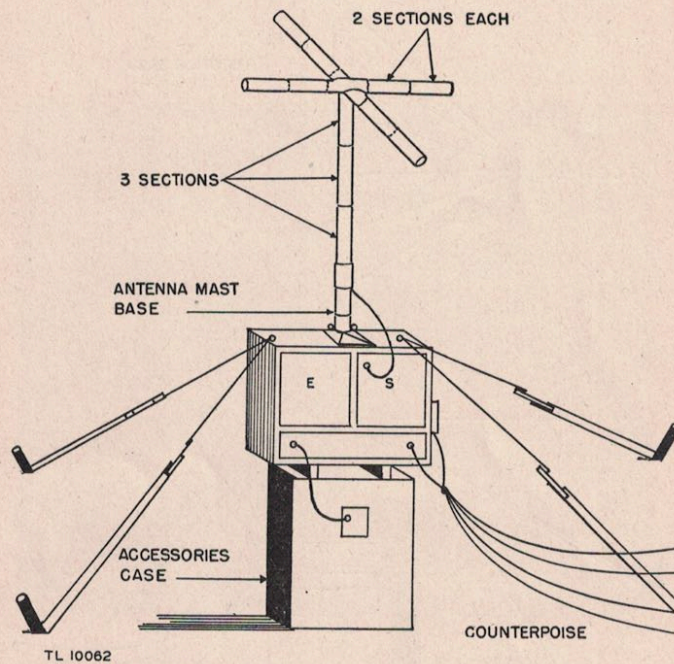
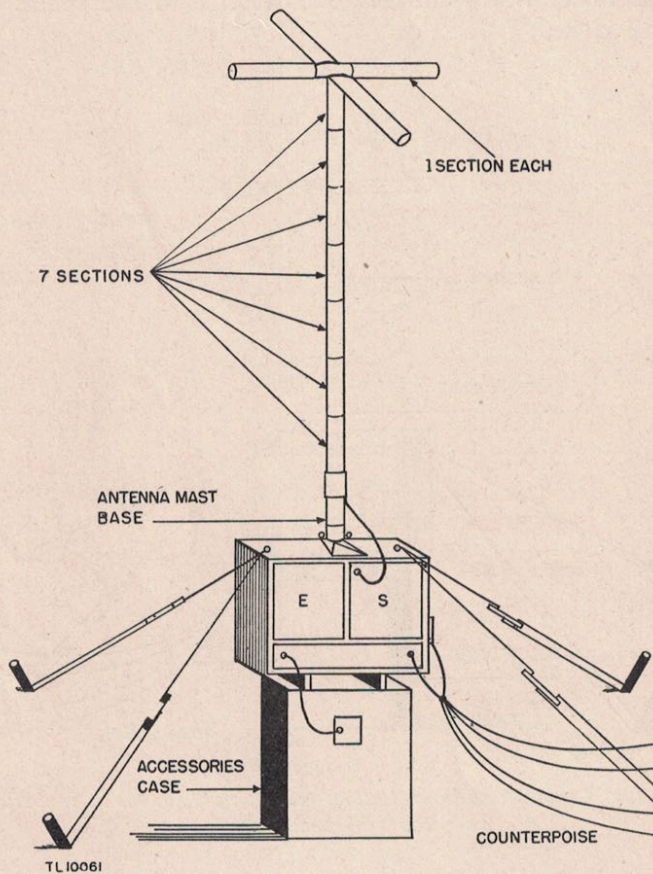

Figure 2. The German radio set, Torn. Fu. b1. or Torn. Fu. f., installed, using low-rod antenna.
Figure 3. The German radio set, **Torn. Fu. b1.** or **Torn. Fu. f.**, installed, using high-rod antenna.
e. **General set installation.** (1) Set up the equipment as shown in figure 2 or figure 3, depending on whether the low- or high-rod antenna is to be used. The high-rod antenna will give a longer range than the low-rod antenna. If the rod antennas are not available, attach one end of a wire about 45 feet long to a tree, being sure to keep it insulated from the tree and not touching surrounding objects. Connect the other end of the wire to the set in the **Ant.** (antenna) jack.
(2) The low-rod antenna is made up of a vertical portion of three antenna sections and a top portion of eight antenna sections (fig. 2).
(3) The high-rod antenna is made up of a vertical portion of seven antenna sections and a top portion of four antenna sections (fig. 3).
(4) The battery plug is connected to the five-contact plug on the lower left of the set. Do not force this plug as it will only plug in one way.
(5) Plug the microphone, either the throat or hand type, into the jack marked **Mikrofon** (microphone). Any single-button carbon microphone equipped to plug into the jack will work satisfactorily.
(6) Plug the telegraph key into the jack marked **Taste** (key). Any telegraph key will work.
(7) Plug the headset into any of the jacks marked **Fernhörer** (head-phones). Any high impedance headset is satisfactory.